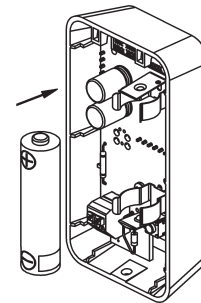

Fig. 8: Battery replacement
2. Remove the used battery from its holder and discard in an environmentally safe manner. Replace with a new battery in the correct orientation (Fig 8).